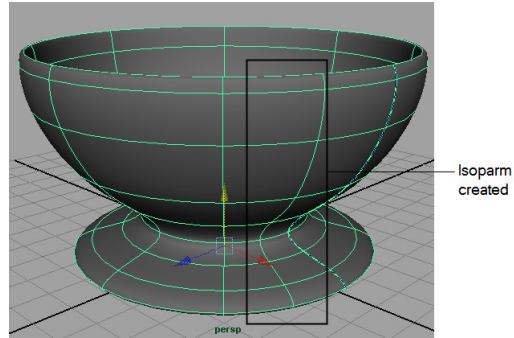

**Figure 3-83** The cup in the shaded mode
2. Press 5 to view the cup in the shaded mode, as shown in Figure 3-83.